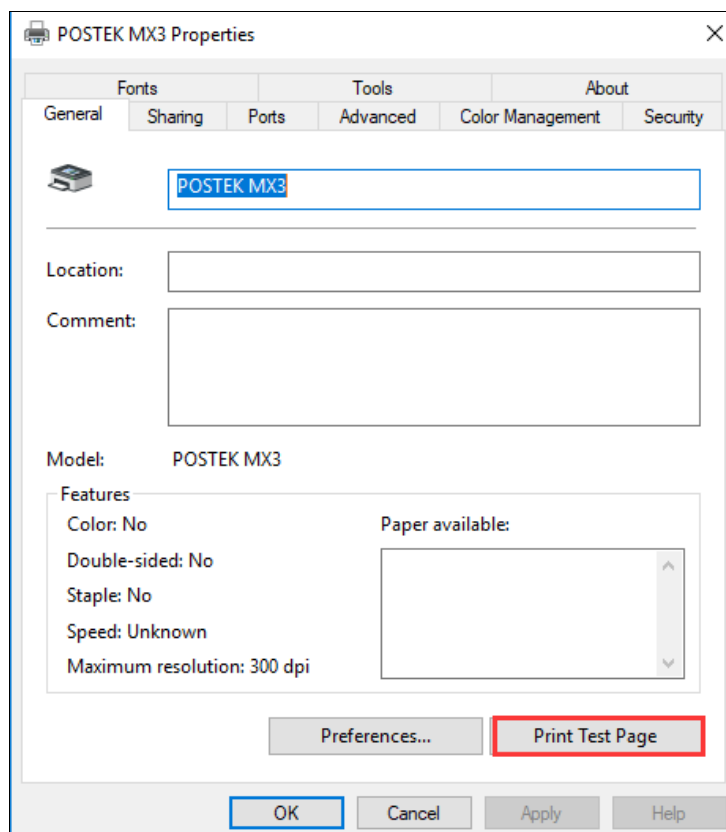

Figure 2-38 Print Test Page
9. Print a test page to see whether the printer is connected properly, as shown in Figure 2-38.